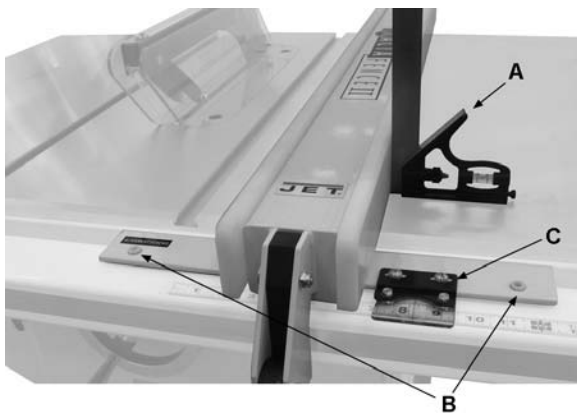

Figure 12
2. Place a square (A, Figure 12) on table next to fence. The fence should be 90° to the table.
3. If adjustment is necessary, unlock fence and turn one of two nylon adjustment screws (B, Figure 12) until fence is 90° to table.
6. Adjust cursor (C, Figure 12) to read the distance just measured, and tighten cursor assembly to fence.